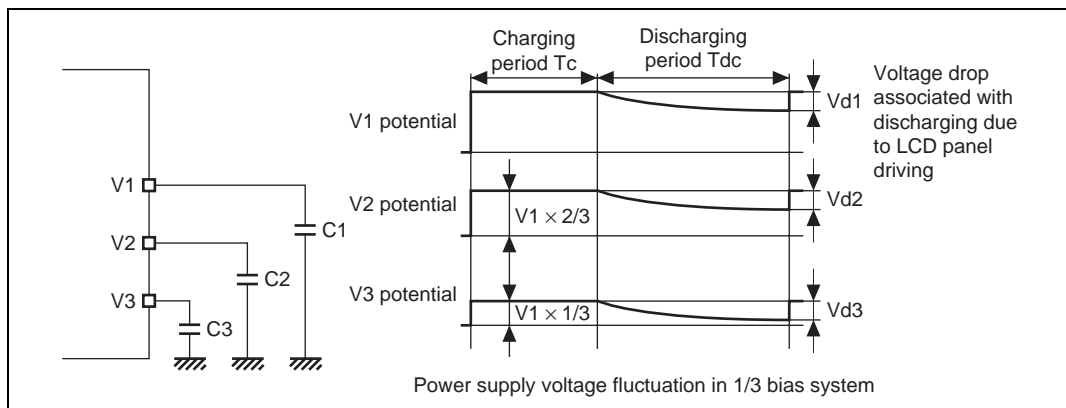

Figure 17.11 Example of Low-Power-Consumption LCD Drive Operation
- As shown in figure 17.11, external capacitors are connected to V1, V2, and V3 of the LCD power supply terminals.
- The capacitors connected to V1, V2, and V3 are repeatedly charged and discharged to retain required voltage levels in the cycles shown in figure 17.11.
- The capacitors connected to the V1, V2, and V3 terminals are repeatedly charged and discharged in the cycles shown in figure 17.11 and retain required voltages, keeping the LCD panel in operation.